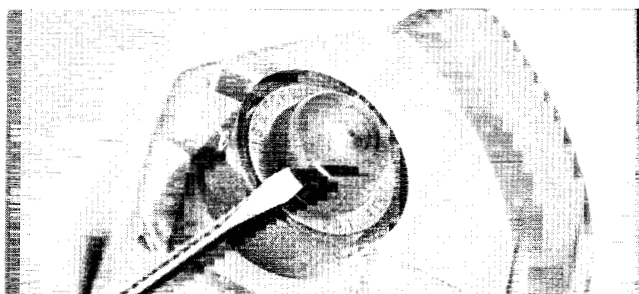

Figure 1.1
1.1 REMOVE SPOOL CAP (fig. 1.1)